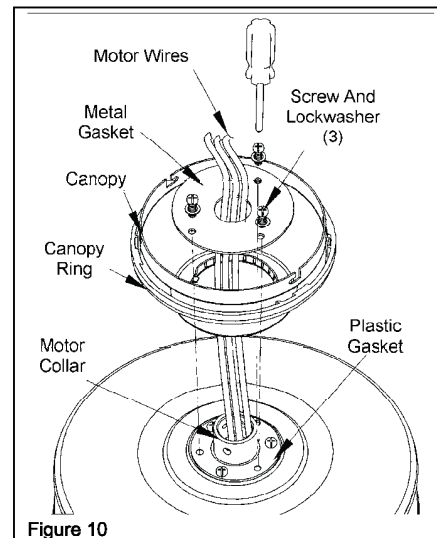

Figure 10
5. Route the wires exiting the top of the fan motor through the plastic gasket, canopy ring, canopy and the metal gasket, place the plastic gasket over the remaining three screws, place the canopy ring, canopy and the metal gasket over the motor collar at the top of the fan motor (Figure 10).